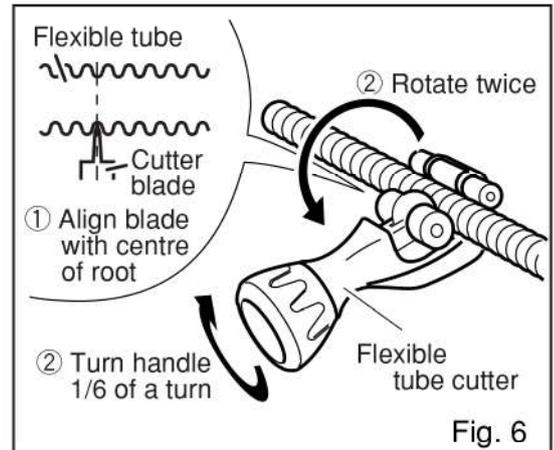

Fig. 6
## (2) Cutting the tube (Figs. 6 & 7)
① Place the blade on the cutter in the center of the groove between the rings on the tube you wish to cut.
② Turn the handle of the flexible tube cutter and allow the blade to gradually engage the tube to cut it.